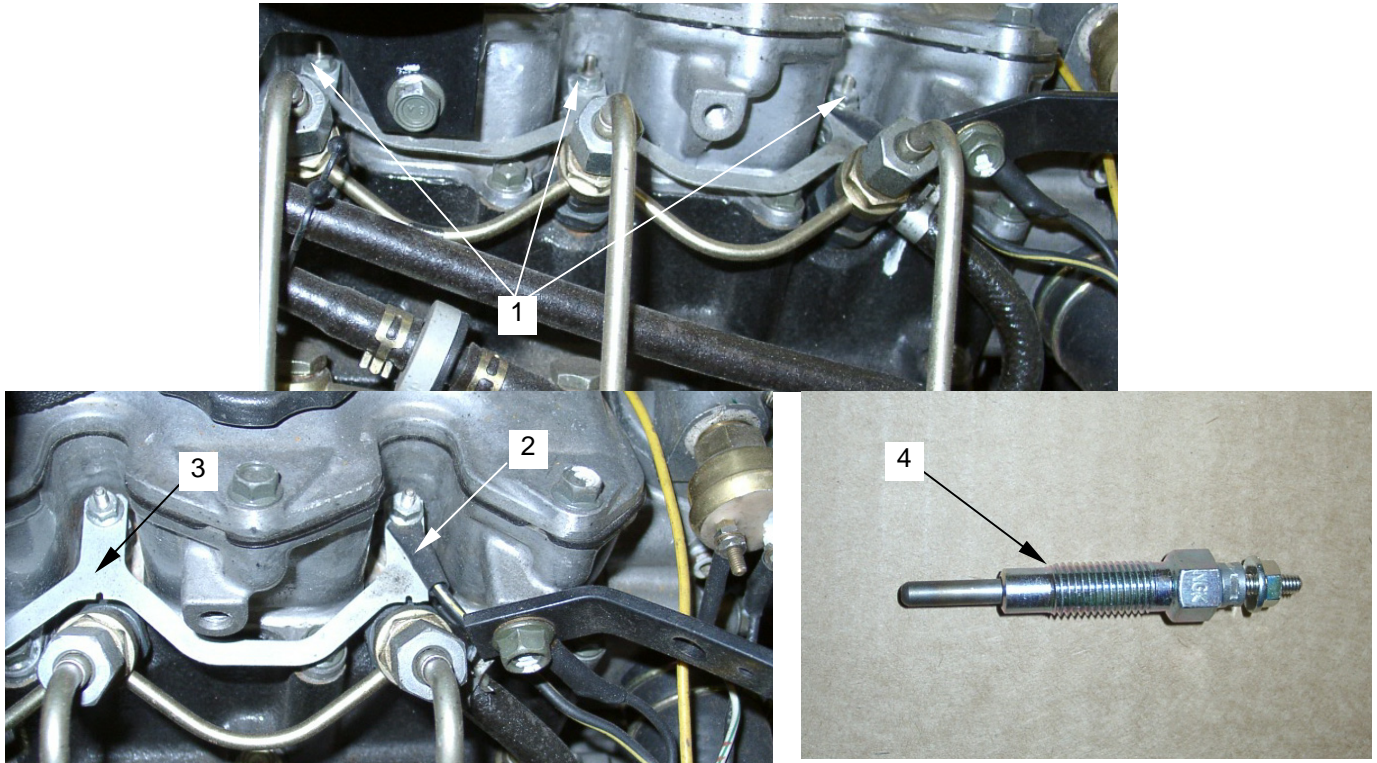

Figure 42. Glow Plug Replacement
- b. Loosen and remove connector mounting nuts (**figure 42, item 1**).
- c. Tag and disconnect wire (**figure 42, item 2**).
- d. Remove connector (**figure 42, item 3**).
- e. Loosen and remove glow plug (**figure 42, item 4**) to be replaced.
- f. Install new glow plug (**figure 42, item 4**).
- g. Install connector (**figure 42, item 3**).
- h. Remove tag and connect wire (**figure 42, item 2**).
- i. Install and tighten connector mounting nuts (**figure 42, item 1**).